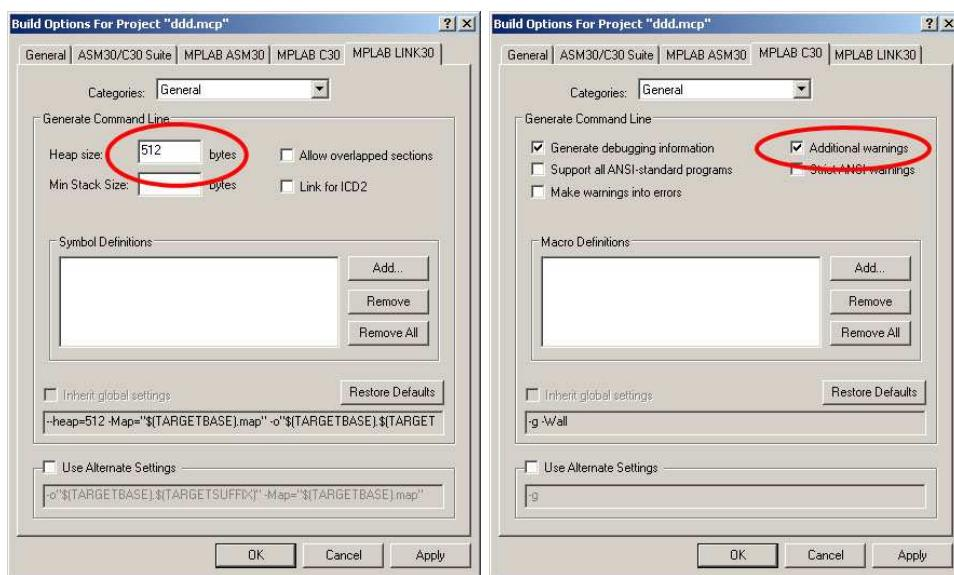

Figure 6: Left: MPLAB LINK30 build options. Right: C30 compiler options.
- Under Project>Build Options ...>Project please select the MPLAB LINK30 tab to view the linker settings (see Figure 6 left).
- Check the box for `Additional warnings` (see Figure 6 right).